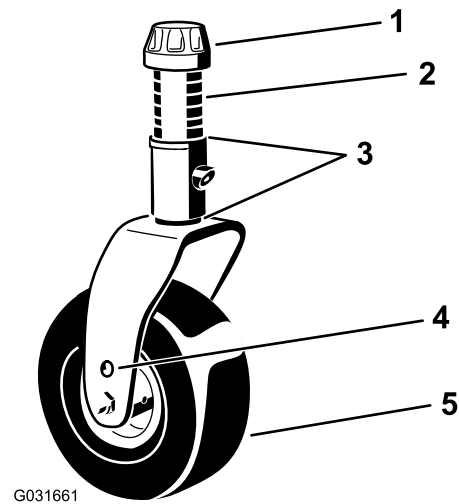

Figure 19
caster-spindle shaft and slide the caster shaft out of the caster arm (Figure 19).
7. Install the shims (as originally installed) and the remaining spacers onto the shaft (Figure 19).
8. Install the tensioning cap and tighten it with the supplied caster-cap wrench to secure the assembly (Figure 19).